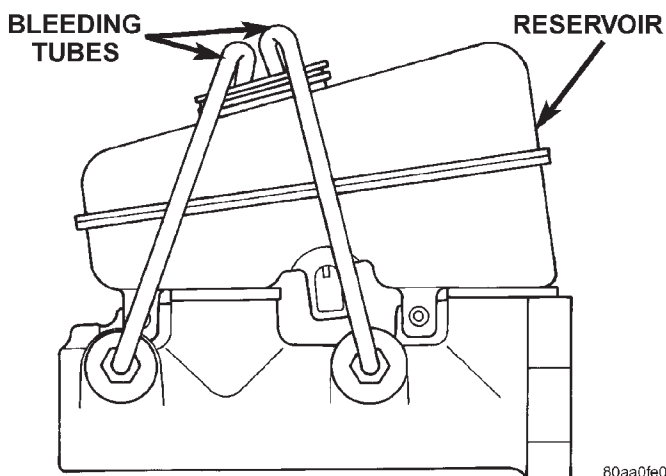

Fig. 14 Master Cylinder Bleeding—Typical
- (1) Mount master cylinder in vise.
- (2) Attach bleed tubes to cylinder outlet ports. Then position each tube end into reservoir (Fig. 14).
- (3) Fill reservoir with fresh brake fluid.
- (4) Press cylinder pistons inward with wood dowel. Then release pistons and allow them to return under spring pressure. Continue bleeding operations until air bubbles are no longer visible in fluid.